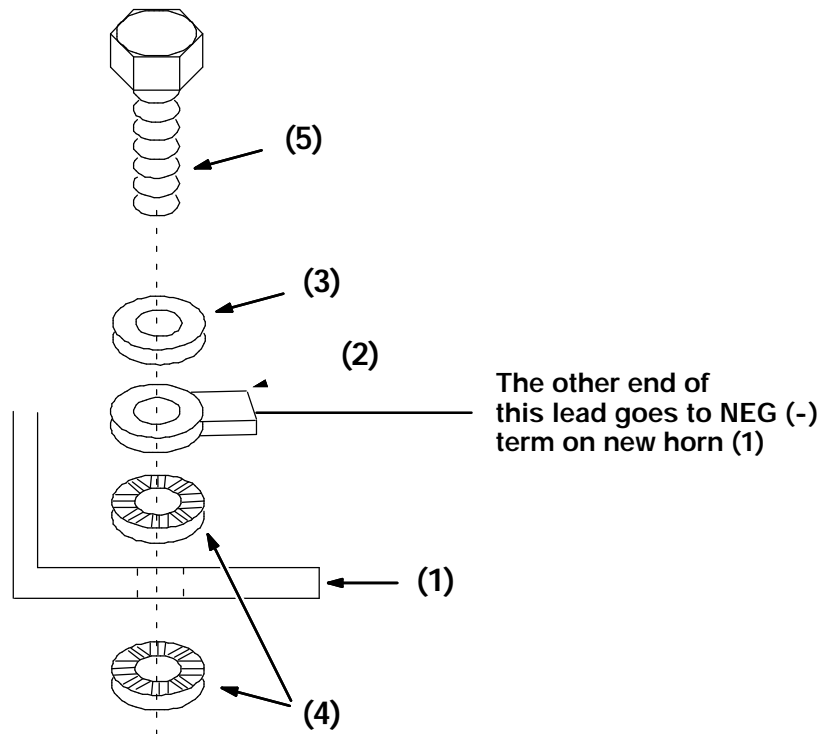

FIG. 1 - Horn Assembly
(Refer to FIG. 1)
1. Install the wire lead (2) on the negative terminal of the new horn (1) . (Refer to Fig. 1)
2. Position the new horn (1) in location of the old one.
3. Install the hardware starting with the M8 hex screw (5), 5/16 in. flat washer (3), wire lead (2), Loc-washer (4), horn mount, and a second loc-washer (4). (Refer to Fig. 1)
4. Tighten the M8 hex screw to 18 - 24 Nm (15 - 20 ft lb). (Refer to Fig. 1)